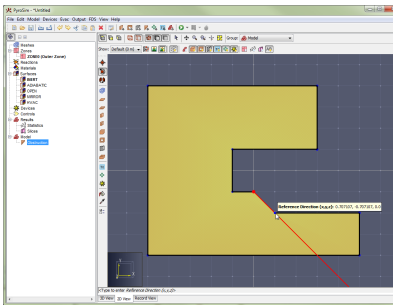

Figure 92. Define reference vector
4. Single-click another point to define a **reference vector** from the first point to the second point (Figure 92). This **reference vector** is what the angle is based from.